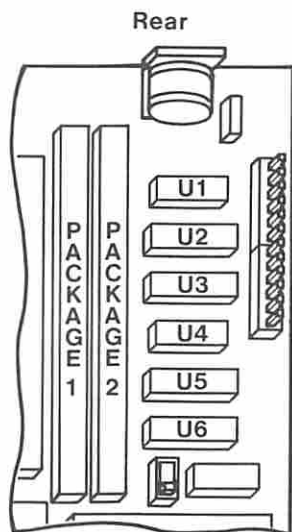

Figure 7. 128KB Memory Modules
- Replace the four 128KB memory modules (U2, U3, U5, and U6) (See Figure 7).